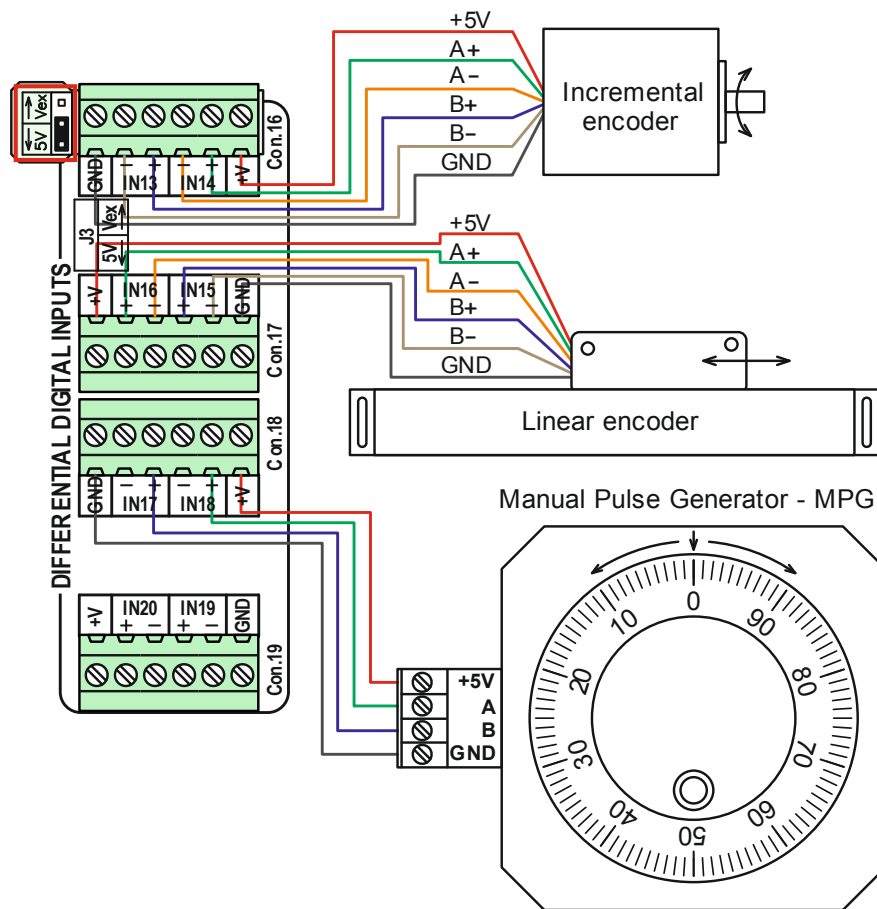

Figure 2.11 Examples of connecting peripherals to differential digital inputs
Figure 2.11 provides some examples of peripheral binding to the differential inputs of the ETH-BOX motion controller. Differential digital inputs can connect sources with:
- Differential outputs (Figure 2.11, an example of a connection between a rotational incremental encoder and a linear encoder), and
- Single-ended outputs (Figure 2.11, an example of a MPG connection).